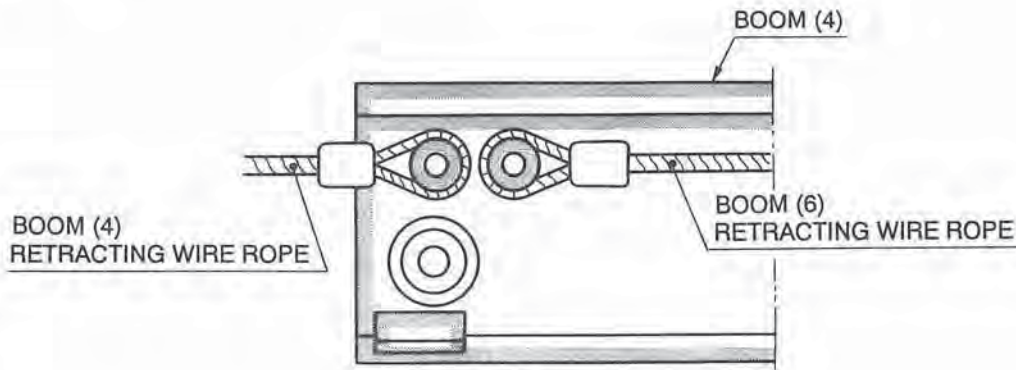

Fig. 1
⑥ Assemble the telescoping cylinder to the booms (4), (5) and (6).
- ⑦ Put the sheave to which the boom (6) retracting wire rope is applied into the pin at the rear end of the boom (4), and fix the plate.
- ⑧ Put the pin which runs through the thimble of the boom (6) retracting wire rope into the innermost boss at the rear upper end of the boom (4), and fix it with the snap ring. (Fig.1)
- ⑨ Put the pin through which the boom (4) retracting wire rope runs into the boss on the front side, and fix it with the snap ring.